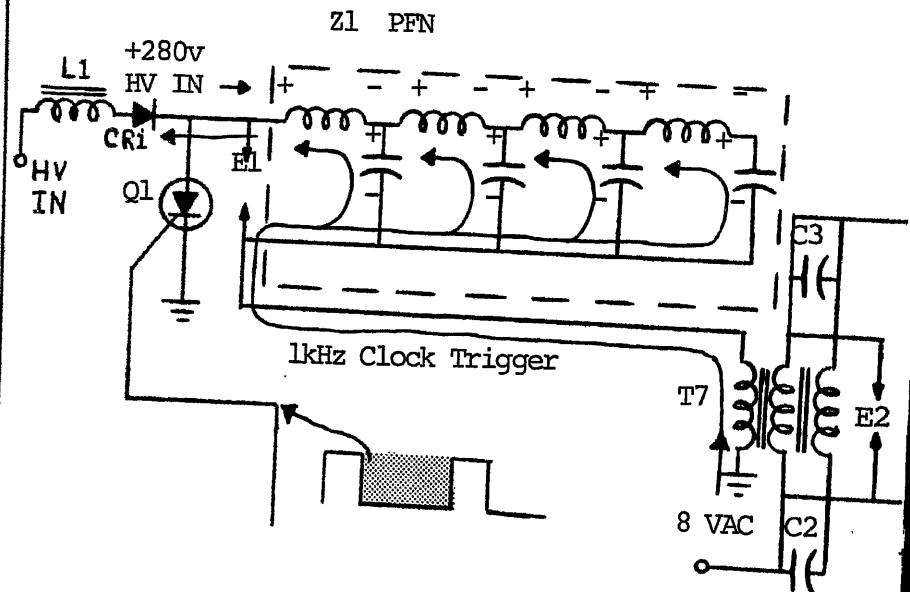

FIGURE 9: PULSE FORMING NETWORK CHARGING SEQUENCE
43. The high voltage for the PFN also passes through the holding diode CR1 before being applied to the pulse forming network. Since the input voltage has a positive polarity, the diode will be forward biased—thus passing the voltage. At the peak of the positive swing each "leg" of the PFN will have assumed a charge shown by the polarity markings on the inductors and capacitors at figure 9. The charge path of the PFN is from ground up through the pulse transformer T7, to each "leg" in the PFN, and through holding diode CR1 and the charging inductor.